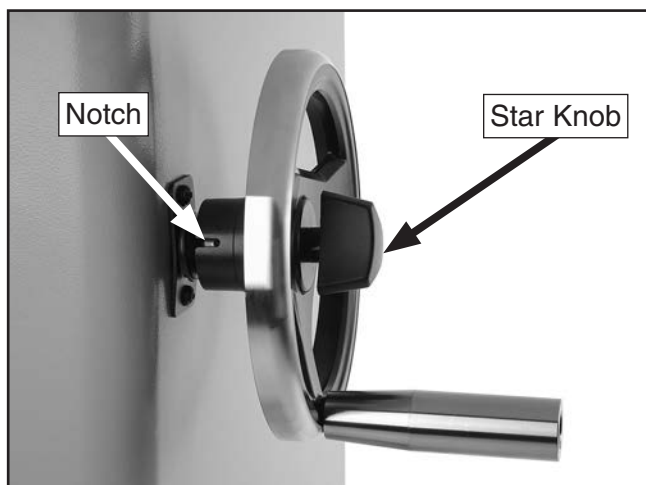

Figure 26. Handwheel installed.
12. Install handwheels on shafts, making sure notch in each wheel fits over pin on each shaft, and secure with star knobs, as shown in **Figure 26**.